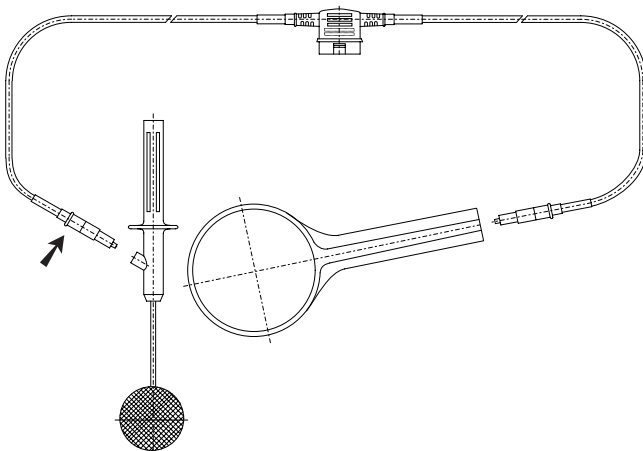

Figure 13-2. Counter electrode for internal defibrillation
The defibrillation electrodes and handles must be disconnected from the cable before autoclaving (arrow, Figure 13-2).
- * Disconnect the electrode from its lead before cleaning or sterilizing it (Figure 13-2).